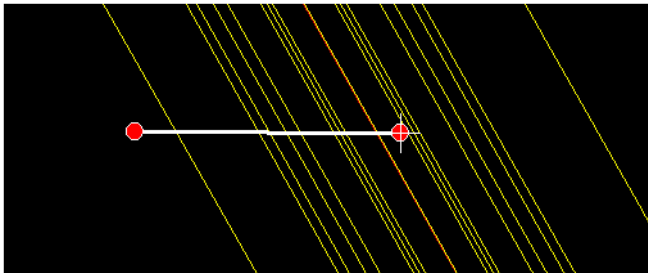

Figure 6-48. Select Area to View in Profile
2. In Plan View, click a location at which to begin the profile. Stretch the line across the field and click once to end it (Figure 6-48).